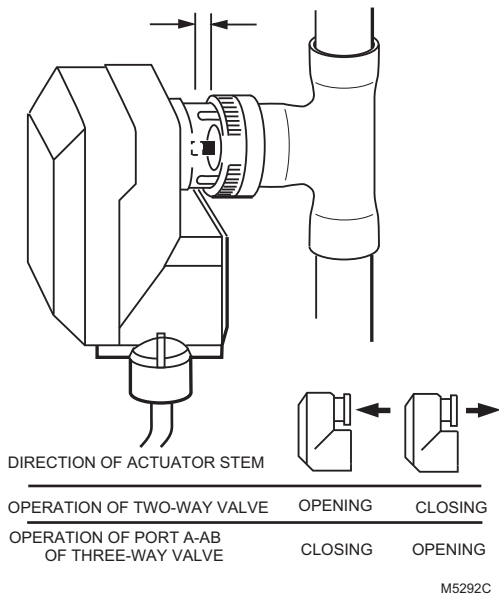

Fig. 17. Direction of actuator stem during operation (M6410 shown).
2. Make sure the actuator either opens or closes the valve, depending on the direction of the temperature change. See Fig. 17.
1. Change the Y input signal. The movement of the actuator stem (Fig. 17) indicates if the valve is opening or closing.